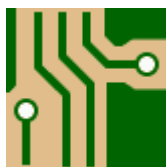

Figure 12.22 The button to go from schematic design to board layout
- To start drawing your board layout (assuming you're still in the Schematics Editor), click on the toolbar button that says **Run Pcbnew to layout printed circuit board** as shown in Figure 12.22 Or go to the *Tools* menu and select *Open PCB Editor*. This opens up the *Board Editor* window.